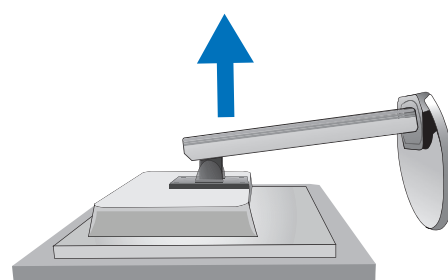

Figure S.2
5. Remove the stand (**Figure S.2**).